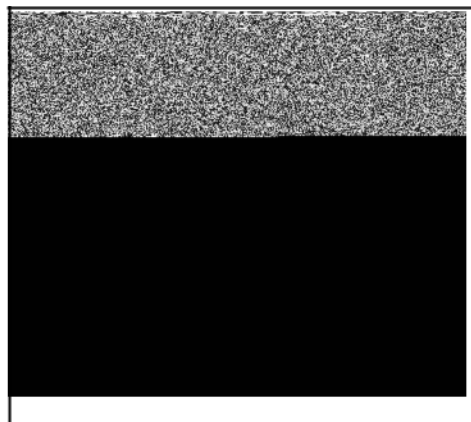

Figure 12
5. Tri-Circuit (Figure 12)
- Stator assembly (A)
- Black lead from stator (B)
- Connector (C)
- Two diodes encased in wiring harness (D)
- WHITE lead - 5 Amps DC (-) to lights (E)
- RED lead - 5 Amps DC (+) to battery, clutch (F)